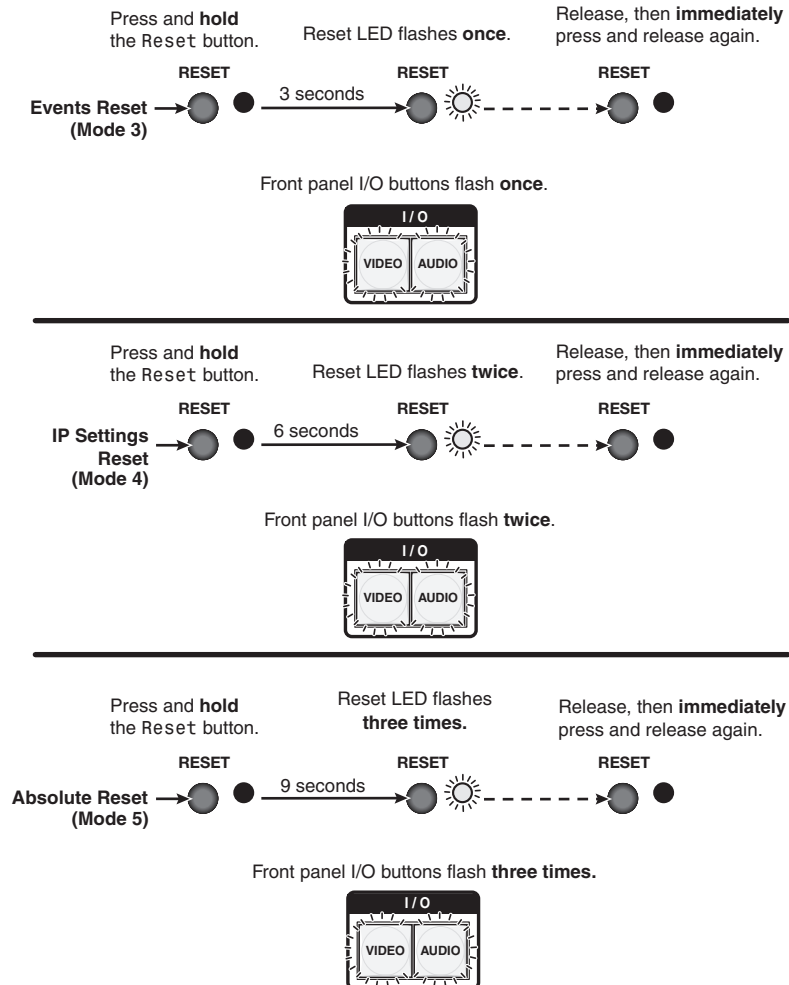

Figure 49. Soft System Resets
1. Use a small screwdriver to press and **hold** the rear panel **Reset** button until the Reset LED and the front panel **Video** and **Audio** buttons blink the number of times for the desired reset: once (events reset), twice (system reset), or three times (absolute reset) (see figure 49).